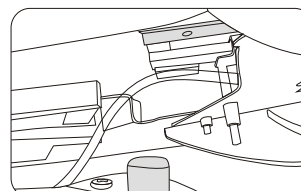

Figure 3
- Hook the back-end of armrest on the steel frame (please note there are two, place it on the upper one). (figure 3)